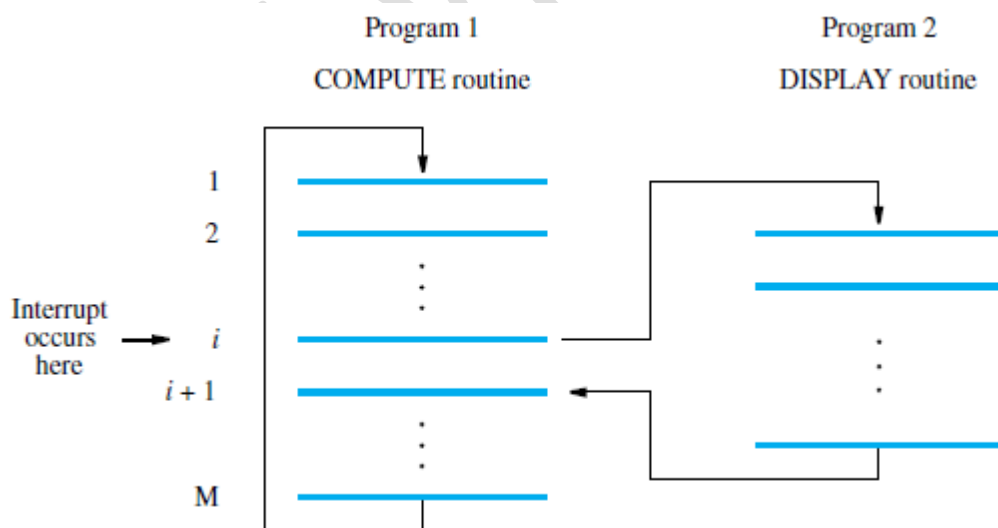

Figure 3.6 Transfer of control through the use of interrupts.
- For example, consider COMPUTE and PRINT routines (Figure 3.6).